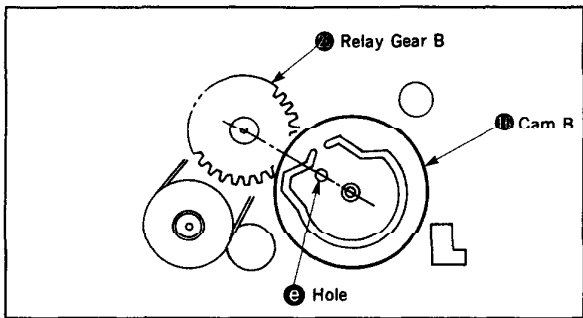

Fig. 32
- 4) Align the hole ⑤ of the cam B ⑲ with the hole of the mechanical chassis. At the same time, engage the relay gear B ⑲ with the gear and mount it. (Fig. 32)